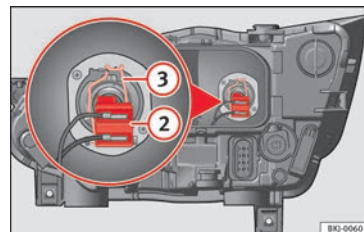

Fig. 97 In the engine compartment: dipped beam headlight.
- Remove the bulb connector »» Fig. 97 **2**.
- Unclip the retainer spring »»» Fig. 97 ③ pressing inwards to the right.